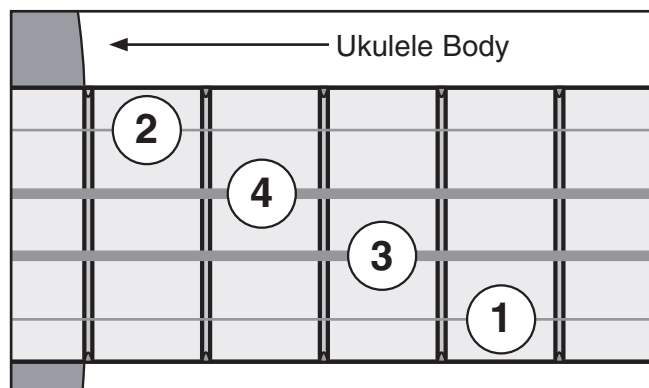

Figure 22. Proper string arrangement.
Each string of the ukulele is a different diameter. Number the strings 1, 2, 3, and 4—from the smallest diameter to the largest diameter. Their arrangement on the ukulele is shown in **Figure 22**.
2. In the order shown in **Figure 22**, pull the strings through the bridge slots, over the saddle, and over the string nut slots.